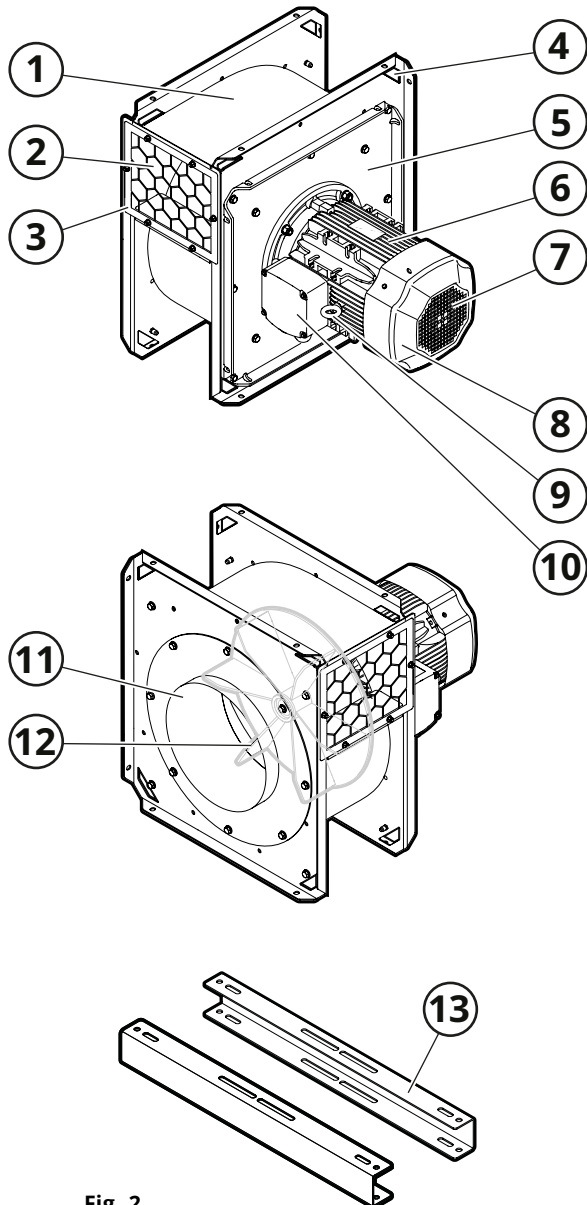

Fig. 2
See Fig. 2.
Air is extracted through the inlet (11, Fig. 2) to the center of the fan wheel (12). The air is then transported through the fan wheel and evacuated through the fan outlet (2).